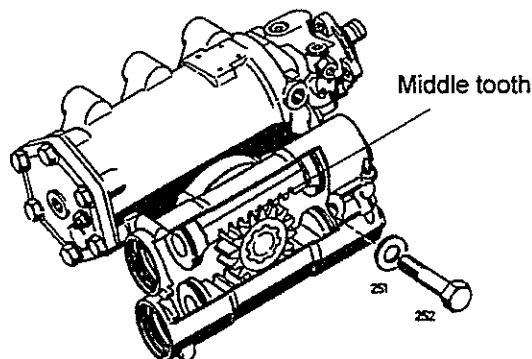

Fig.47
Screw add-on cylinder (250) onto the steering so that the middle tooth of piston (258) engages in the gap in gear (254) in each case (*Fig.47*).